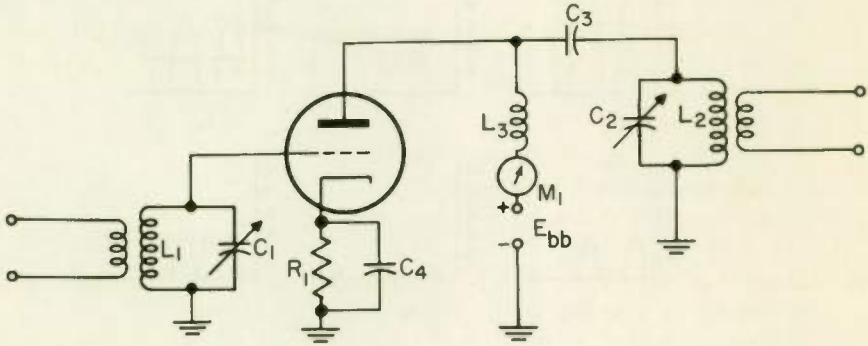

Fig. 47
35. You are troubleshooting the amplifier shown in Fig. 47. What class of operation is employed? Hint: Note method of obtaining bias voltage.
- (1) Yes
- (2) No
37. With a signal applied to the circuit of Fig. 47, you find that the output of the stage is badly distorted. Replacing the tube does not help. You measure the plate voltage, which you find to be normal. With no signal applied you measure 0 volts between the control grid and cathode. Which of the following could explain this reading?
- (1) this resistor may be faulty, since its resistance is less than the color coded value.
- (2) this resistor is not faulty, since its resistance does not vary from the color coded value by more than the coded tolerance.
- (3) this resistor has too high a value and should be replaced.
41. Some months later you again find yourself troubleshooting the circuit of Fig. 47. When you apply plate voltage, meter M_1 reads extremely high. (Since M_1 is a d-c meter, any signal current through it will not be read.) This high reading could be caused by